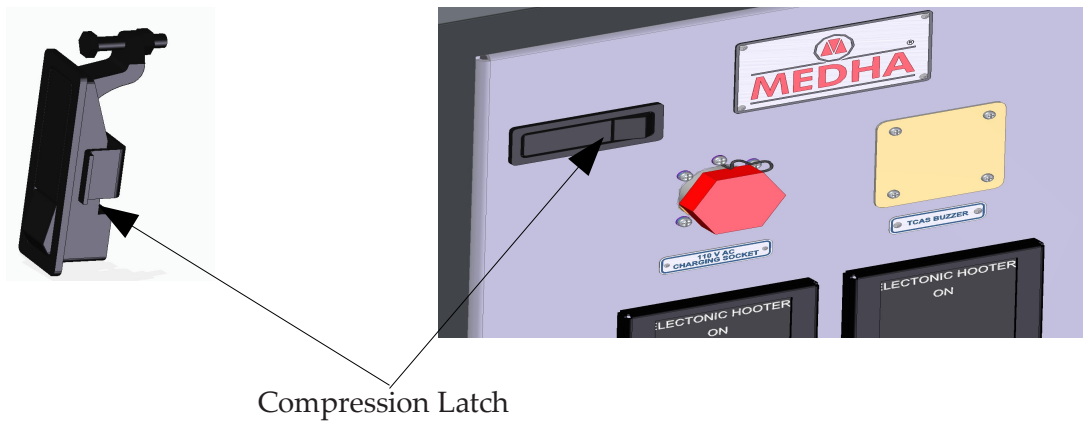

Figure 4: Example of Compression latches
- Figure 4 : Examples of compression latches
2. Open all Compression latches (Figure 4) by hand press
2. Close all Compression latches (Figure 4) by hand press.